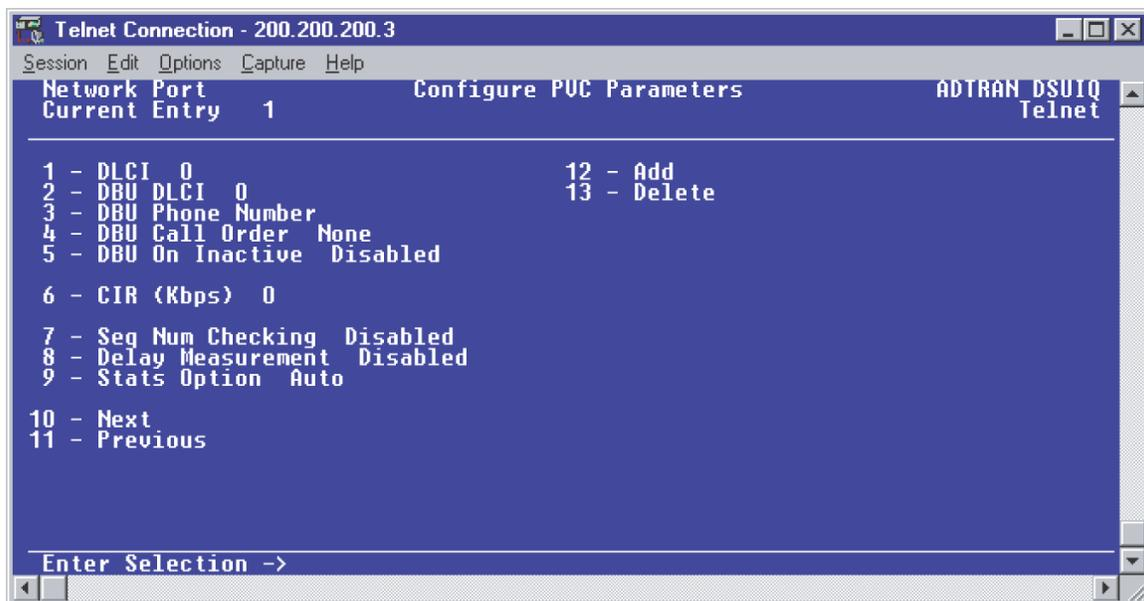

Figure 57. Configure PVC Parameters Menu
2. From this menu, select 9, **PVC OPTIONS** is selected. Press **<ENTER>** and the screen shown in Figure 57 is shown.